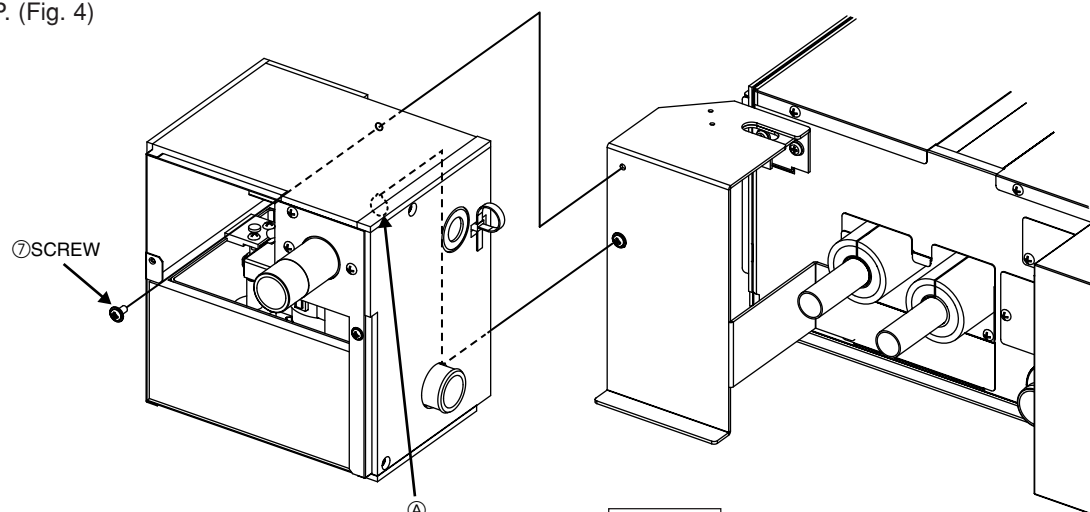

Fig. 4
- (4) Hang the ①DRAIN PUMP on the ②ATTACHMENT by placing the ⑦SCREW (the one screwed in during Step (2) above) through the hole (A) on back of the ①DRAIN PUMP, and then tighten the ⑦SCREW from inside the ①DRAIN PUMP. (Fig. 4)